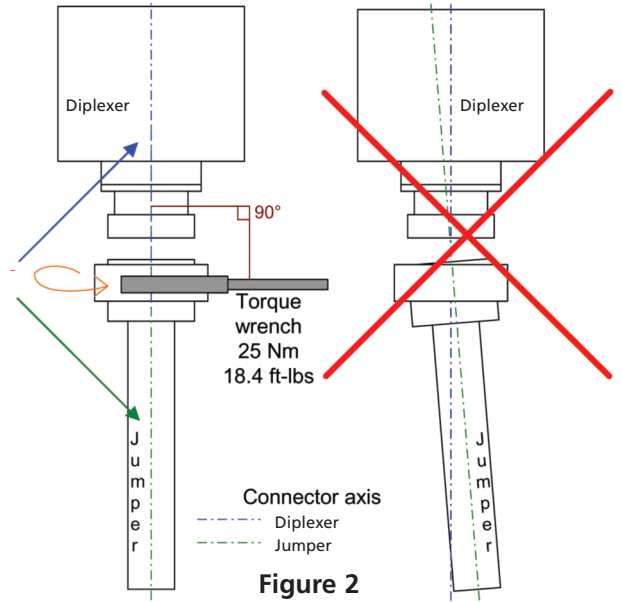

Figure 2
8. When attaching the jumper cable 7/16 connector coupling nut to the Diplexer 7/16 female connector it is mandatory that the jumper cable meets with the 7/16 female connector of the Diplexer straight in line (See Figure 2). Press the inner part of the jumper cable connector into the Diplexer connector and maintain this pressure when turning the coupling nut. Hereby the coupling nut will fit the thread of the female connector correctly and it will run smoothly. Tighten the coupling nut by hand.
Note: No angular torque from the jumper cable is allowed at any time. Fluctuation between the diplexer and the jumper axes $< \pm 2.5^\circ$ (Figure 2).